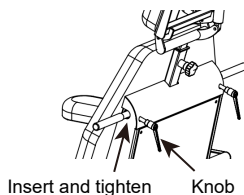

Figure 12
- Turn the knob upwards,then insert the push handle into the round pipes on both sides of the waist section, and turn the knob downward to lock the handle tightly (Figure 12).